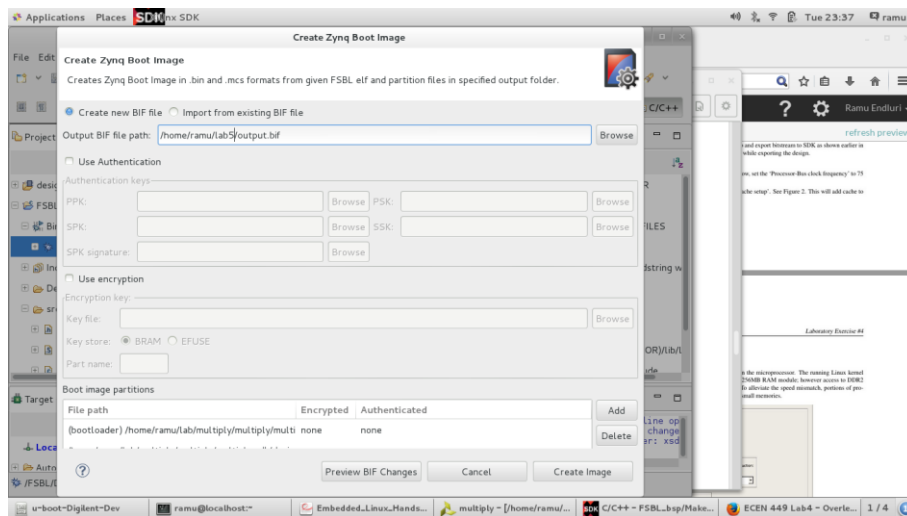

Figure 4: Zynq Boot Image
- In the Create Zynq Boot Image window (as shown in Fig. 4), Click Browse to set the path for output.bif. Give the path to your lab4 directory. Figure 4: Zynq Boot Image FSBL as the name suggests it should be the first file in the boot image. Click add in the boot partitions section to add FSBL.elf. In the 'add partition' window, select 'Browse' and FSBL can be found under the directory lab4/project_name.sdk/FSBL/Debug/. Make sure the partition type is set as bootloader. This will indicate FSBL as the initial boot loader. Select 'OK'